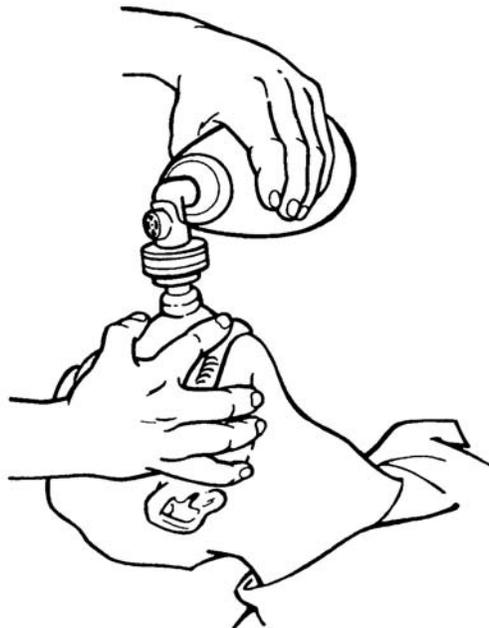

Figure 2-9. Giving ventilations using BVM.
(2) Place your thumb and index finger of one hand on the mask. Position the thumb above and the finger below the valve connection. Use the other fingers (on the same hand) to grip the lower jaw in order to maintain the tight seal of the mask (figure 2-9).
f. **Begin Ventilations.** Perform ventilations by squeezing the bag with the hand that is not holding the mask in place (figure 2-9).
(1) Squeeze four initial quick breaths with the bag.
(2) Thereafter, use your other hand to squeeze the bag in a rhythmical manner once every five seconds to give a rate of twelve breaths per minute.
(3) An oxygen source may be attached to the mask if available and ordered by a physician.